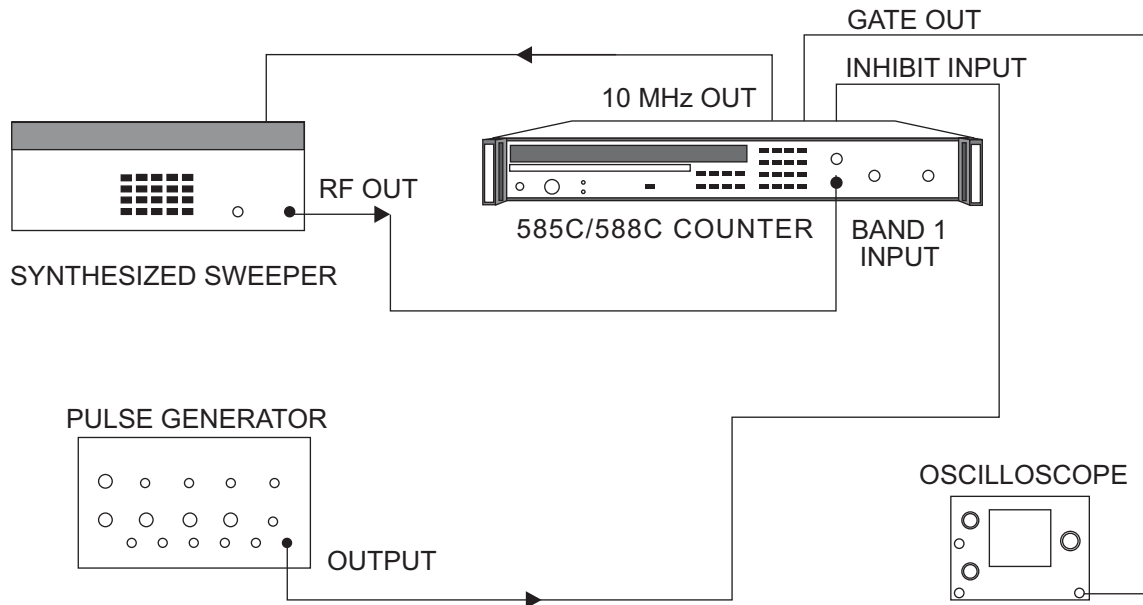

Figure 6-8. Band 1 Gate Error Test Setup
1. Connect the equipment as shown in **Figure 6-8** and turn the equipment on.